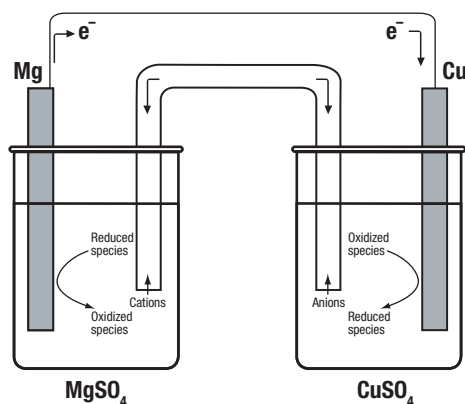

Figure 2. Galvanic Cell
See Figure 2 for the second experiment setup, a galvanic cell. In a galvanic cell, a spontaneous chemical reaction releases energy in the form of electricity (moving electrons).
7. Using arrows, label the parts of the galvanic cell in Figure 2 and answer questions *a–d*. Use this list of key words: electrodes, electrode storage/compartments, cathode, anode, and salt bridge.
8. Seek educational resources and provide an example of a replacement electrode if the copper electrode was not available in Figure 2.
9. The materials to build your very own hand-held battery include: 2 small squares of filter paper, 1 M copper(II) sulfate solution, 1 M sodium sulfate solution, magnesium ribbon, and an LED with copper tape attached to the positive terminal. Again, the challenge is to build a hand-held battery by successfully arranging the components to light the LED. *Helpful tips:*